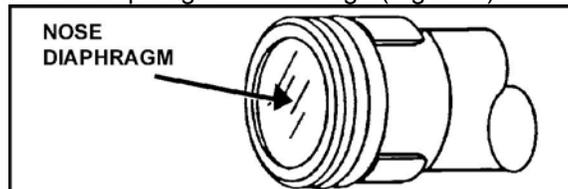

Figure 7. Nose diaphragms.
- Check the nose and rear diaphragms for damage (Figure 7).